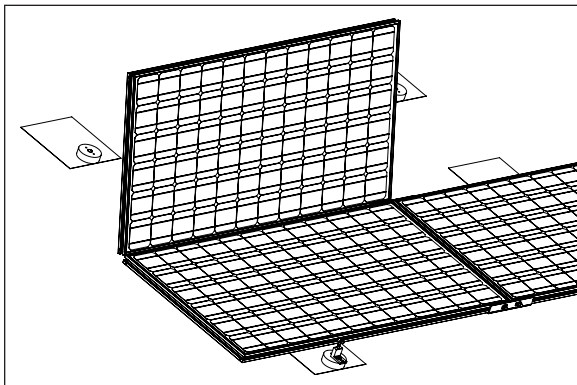
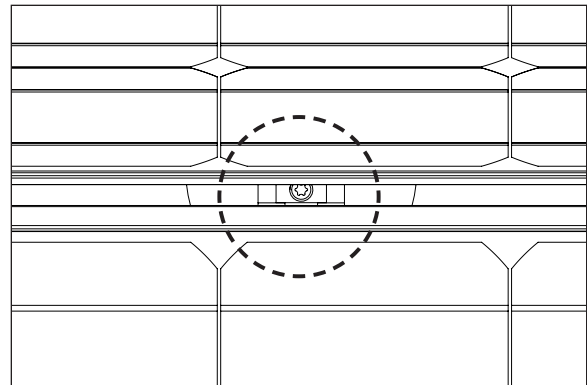

Figure 5.10A
Figure 5.10B
1. Moving up to the next row, rest the edge of the next Module on the top of the Foot Zeps (Figure 5.10A). In order for the Zep tongue to fully seat into the Module groove, the Module should cover about half of the top of the foot stud prior to starting the drop in and pivot lock procedure (Figure 5.10B).